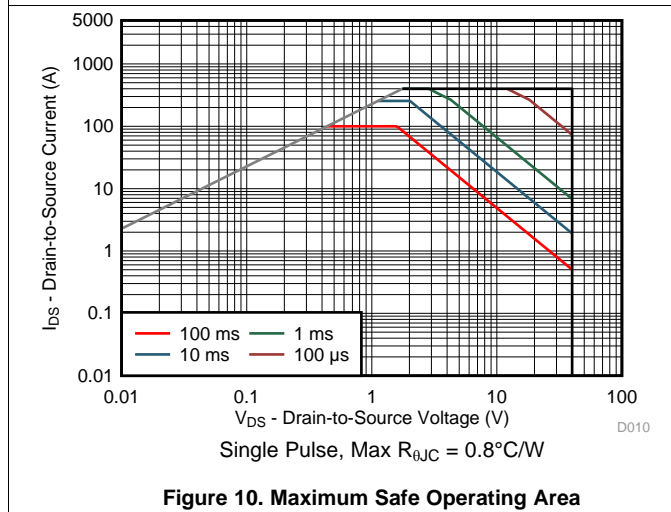

Figure 10. Maximum Safe Operating Area
• Updated SOA in Figure 10. ....	6